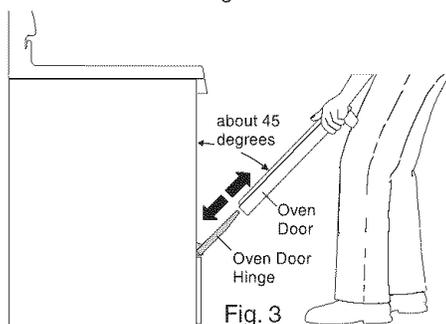

Fig. 3
**Note:** The broiler pan and the insert allows grease to drain and be kept away from the high heat of the broiler (See Fig. 3). **DO NOT** use the pan without the insert. **DO NOT** cover the insert with foil; the exposed grease could ignite.
5. Grasp oven door firmly on both sides and slide door up and off hinges at the same angle. (See Fig. 3)
2. Hold door at the sides near the top while resting the lower front of door on your knee. Insert the door channels at the bottom of door over the door hinges, (See Fig. 3).